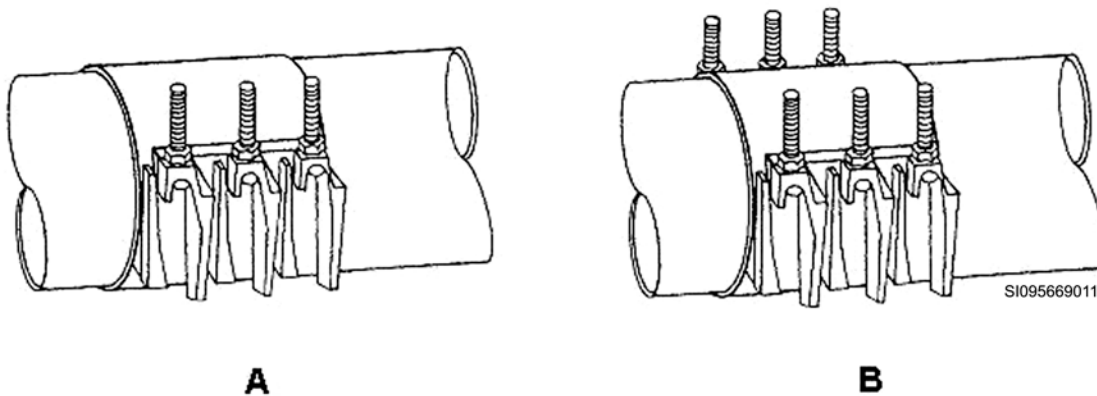

Figure 2-122. Full-circle (saddle) clamps.
There are many different types of breaks that can cause fuel lines to leak. Lines that have holes, splits, or full-circle breaks usually are temporarily repaired with a full-circle clamp. A permanent repair will require welding or replacing the pipe. Full-circle clamps are available for pipe sizes of 1¼ to 24", and will cover pipe lengths of 6 to 36". This type of clamp has a specially ribbed one-piece rubber gasket that goes around the inside of the band, wrapping itself around the pipe without a "gasket break"—hence the name full-circle. The ends of the gasket are oppositely tapered so that gasket thickness is uniformly maintained at the closure point of the gasket. The band or "panel" is usually made of ductile iron or stainless steel. The stainless steel band is preferred for corrosive "warm soil" applications. Pipes that have been buried for years and constructed long ago do not have a perfect outside diameter. For this reason, full-circle clamps are constructed with a variance of either 0.4" or 0.8", depending on the design. Single-panel, full-circle clamps, such as the one in figure 2-122, view A, have a 0.4" variance on the outside diameter (OD) of the pipe.
The double-panel, full-circle clamp in figure 2-122, view B, has the same gasket configuration as the single-panel, full-circle clamp with the exception of the number of panels or "bands." Because of the double-panel design, this full-circle clamp has a 0.8" variance—a great advantage when ordering. The double-panel, full-circle clamp is preferred because of the leverage in variance. Specially configured triple-panel, full-circle clamps are used for pipe sizes larger than 24". The ends of the panel or "band" all have lugs attached. These lugs have holes in them for the bolts. Some clamps have slots in place of the holes on one of the lugs, which make installing the bolts easier.